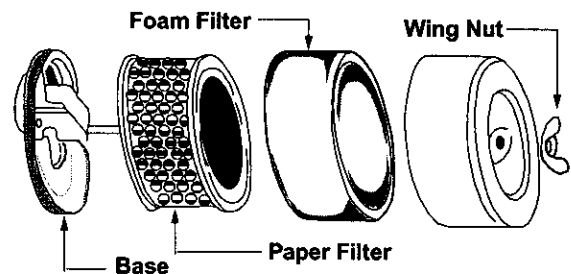

Figure 13
- Clean pre-cleaner as follows: (See figure 13.)